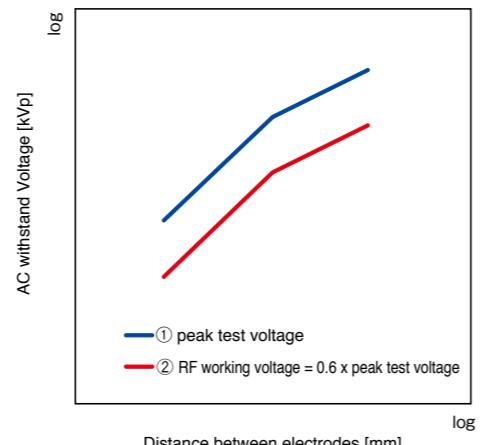

Figure 3
This refers to a limit value of dielectric breakdown voltage between electrodes (Figure 3. ①). Before shipment, MEIDEN tests vacuum capacitors to confirm that no dielectric breakdown occurs when the rated voltage is applied for the specified time (one minute).
This refers to the rated voltage which can be applied continuously. The RF working voltage is set at 60 % of the peak test voltage (Figure 3. ②).